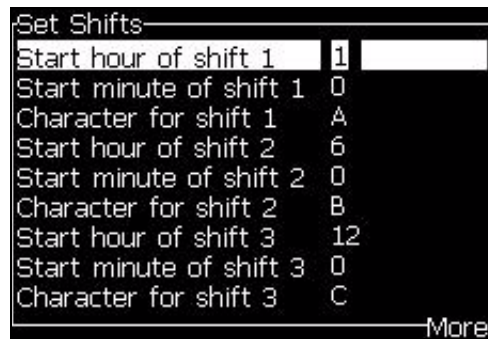

Figure 5-32: Set the Shifts
- 3 Press the *Enter* key to open the *Set Shifts* dialog box (Figure 5-32 on page 5-41).